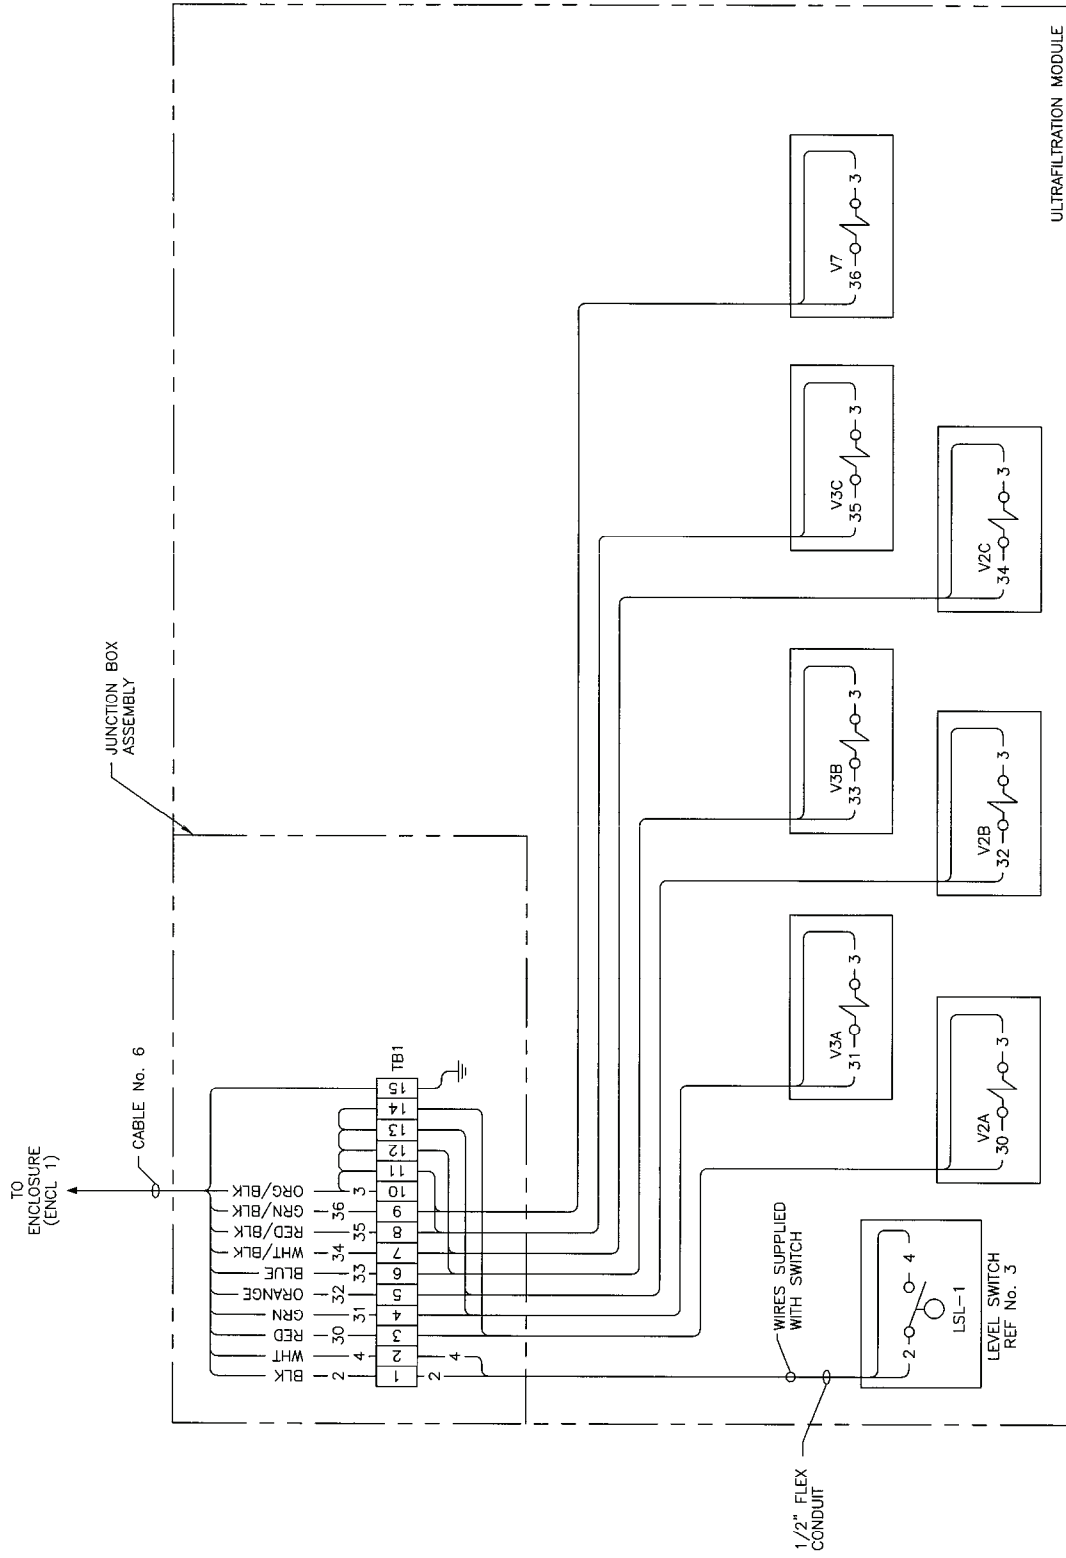

Figure 3. Ultrafiltration Module Wiring Diagram.
5. Remove all wiring from terminal block (Figure 3, item 6). Note location of the wires and their numbers.
7. Remove the jumper strips between terminals 10 through 14. See Figure 3.
3. Connect jumper strip between terminal 10 and 11 and all wiring on the terminal block (Figure 2, item 6). See Figure 3.
4. Reconnect all the conduits from the nine (9) hubs.